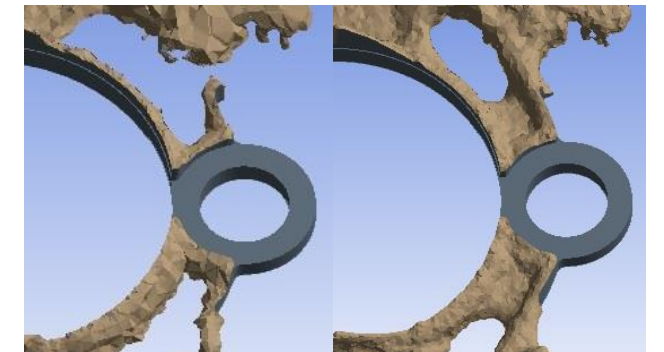

Fig. 2 : Geometry improvement thanks to additional mechanical loads
- Implement extra dummy loadings to improve the obtained geometries (Fig. 2)